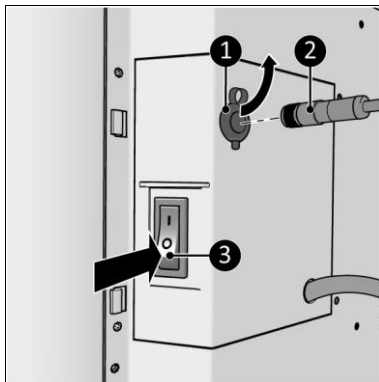

Figure 13
1. Make sure the ON/OFF switch is in the OFF position (Figure 13, pos. 3)
2. Connect the temperature sensor connector (Figure 13, pos. 2) to the sensor plug (Figure 13, pos. 1).